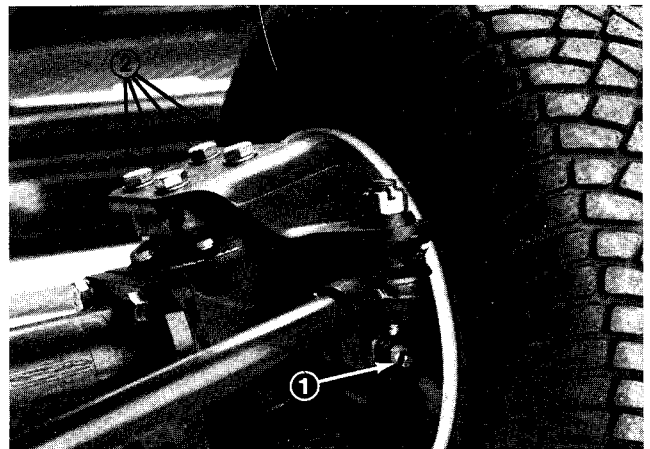

Figure 24
CHECK REAR AXLE LUBRICANT (Fig. 24 & 25) (Model 03531 only)
2. Remove a check plug from each end of axle and make sure lubricant is up to bottom of hole. If level is low, remove one of the mounting bolts above each end plug and add enough lubricant to bring the level up to the bottom of the hole (Fig. 24).